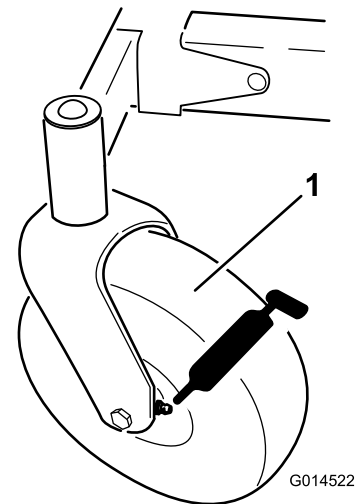
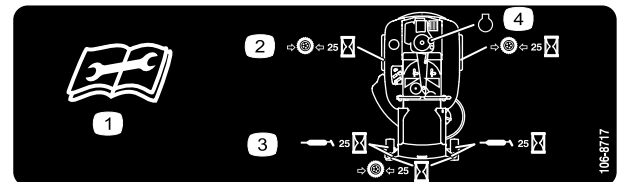

Figure 27
Figure 28
3. Clean the grease fittings (Figure 27 and Figure 28) with a rag.
4. Connect a grease gun to each fitting (Figure 27 and Figure 28). Pump grease into the fittings until grease begins to ooze out of the bearings.